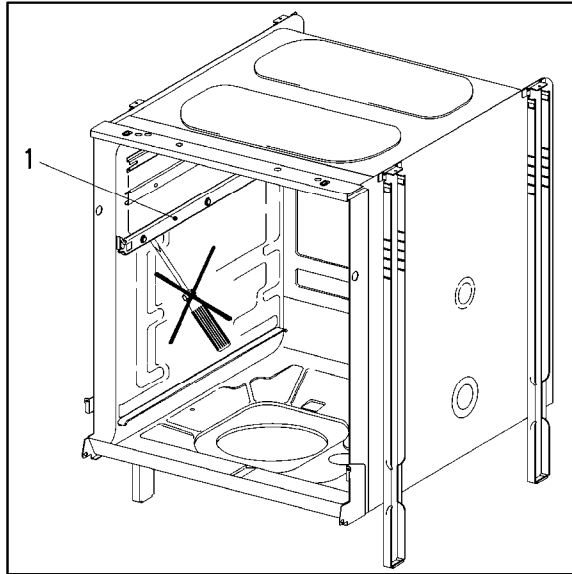

Figure 5-7: Basket Guide
1. Slide out the Basket Guide (Figure 5-7 – Item 1), until the Clip, between the Bolt on the cabinet wall and the Basket Guide is visible.